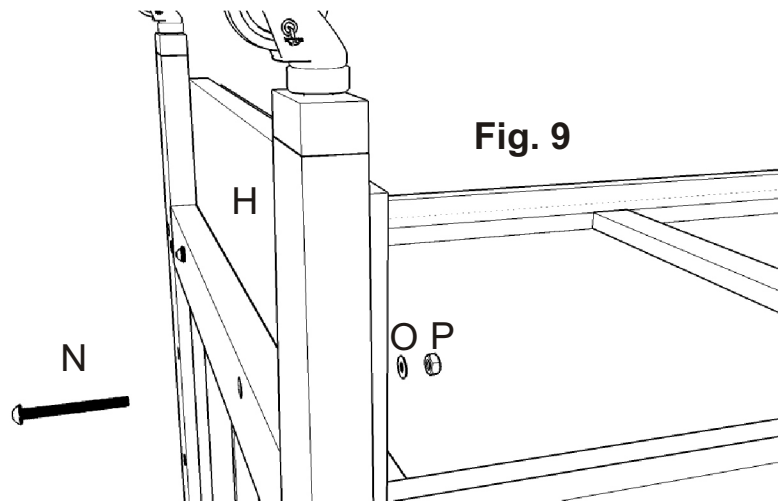

Fig. 9
Align the four pre-drilled holes of the Drawer Hangers and the four pre-drilled holes on the lower horizontal of the end panels. (Fig. 9)
Attach the Hangers using Bolts (N), Washers (O) and Nuts (P) on all four locations using a phillips head screw driver. Place a washer (O) next to the nut and bolt as illustrated (Fig. 9)